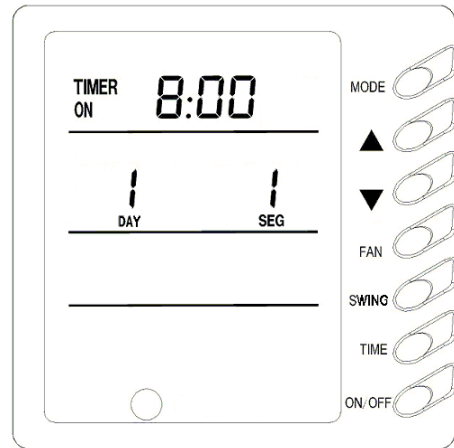

Fig.12
- ❖ In timing setting mode, press MODE button to select any desired setting object: Week (1-7), timer interval (1-4), timing (Timer on or Timer off time), min. part or hour part of time, and then press▲ or ▼ button to adjust this object, which is fixed by pressing TIMER button or can be canceled by pressing Timer again. During fixing setting there must be blinking characters. During canceling setting, if there are also blinking characters, setting can be continuous till quit It by pressing ON/OFF button; meanwhile, timing data are memorized. (Fig.12, 13)